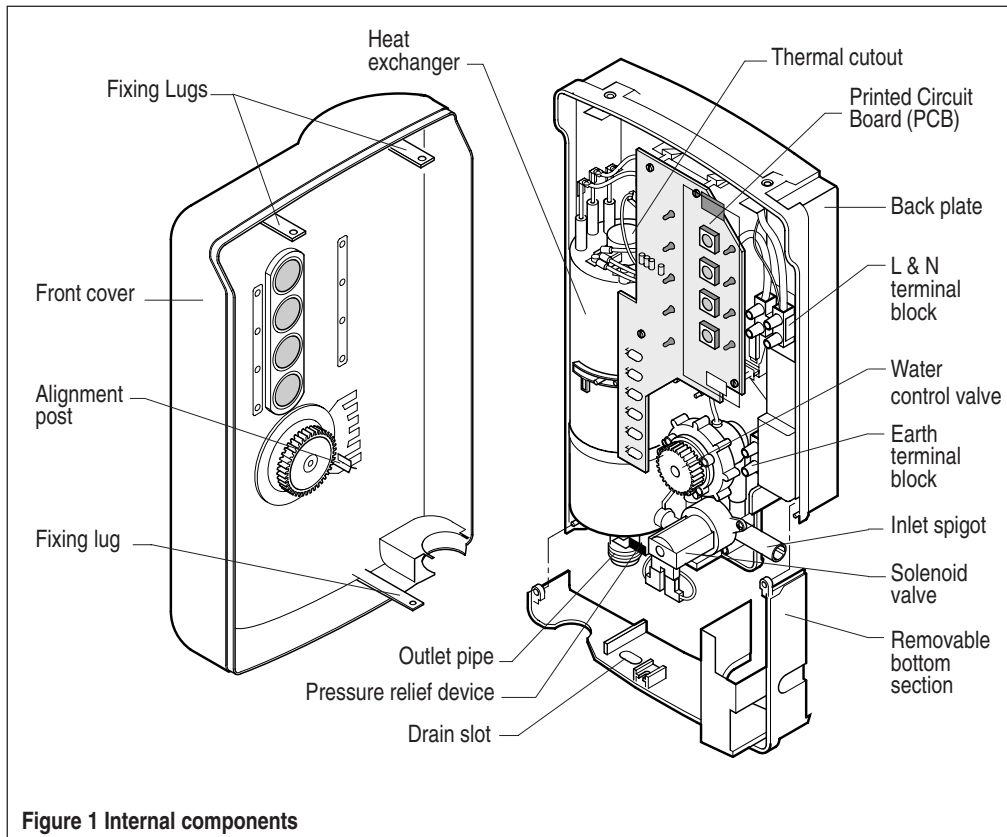

Figure 1 Internal components
2.10 IT IS IMPORTANT TO CLEAN THE SPRAY PLATE REGULARLY, particularly in hard water areas, where this may be necessary as often as once a week. Failure to do so will affect the performance of the shower and in extreme cases may cause the pressure relief device (PRD) to operate - see Fig. 1 and Fault Finding (p18).